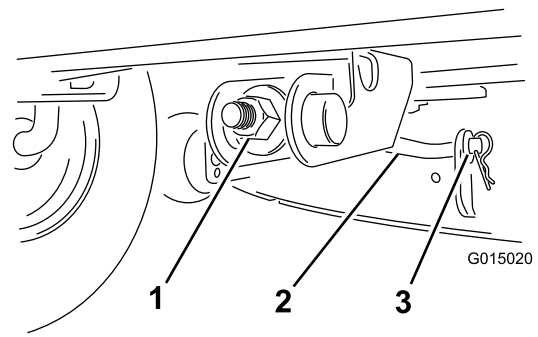

Figure 43
8. Adjust the front-to-rear blade slope by rotating the adjustment nut in the front of the mower (Figure 43).